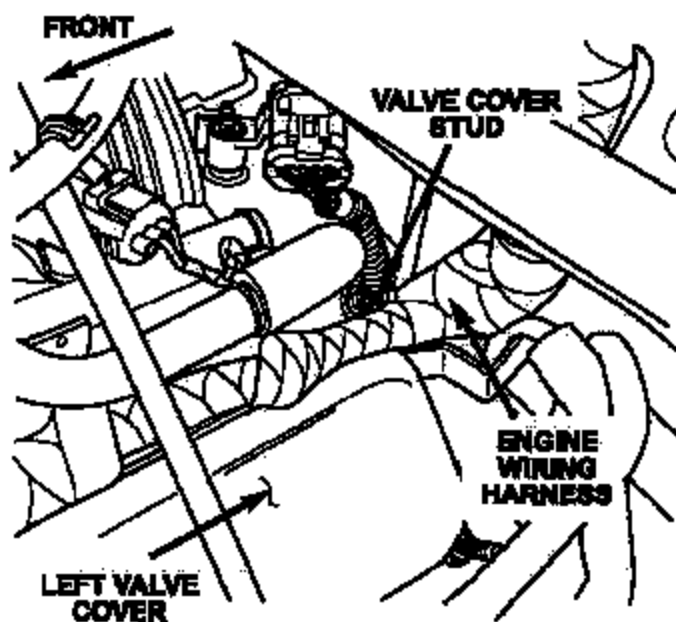

Figure 3
5. Inspect the rear engine wiring harness where it passes the valve cover stud that is located on the rear left corner of the engine (Figure 3). If the wiring insulation is damaged from contact with the stud, wrap it with high quality electrical tape.